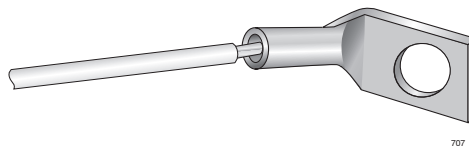

Figure 21. Connecting the Wire to the Ground Lug
1. Use a crimping tool to affix the ground lug to one end of the 12 AWG stranded or 14 AWG solid ground wire, as shown in Figure 21.